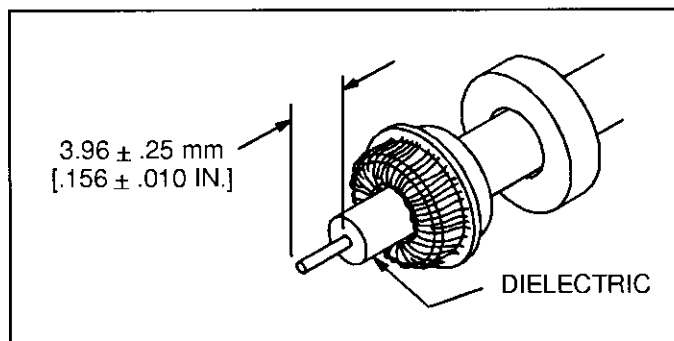

Fig. 5
4. Using the dimension in Figure 5, strip dielectric to expose center conductor. If applicable, tin the center conductor.